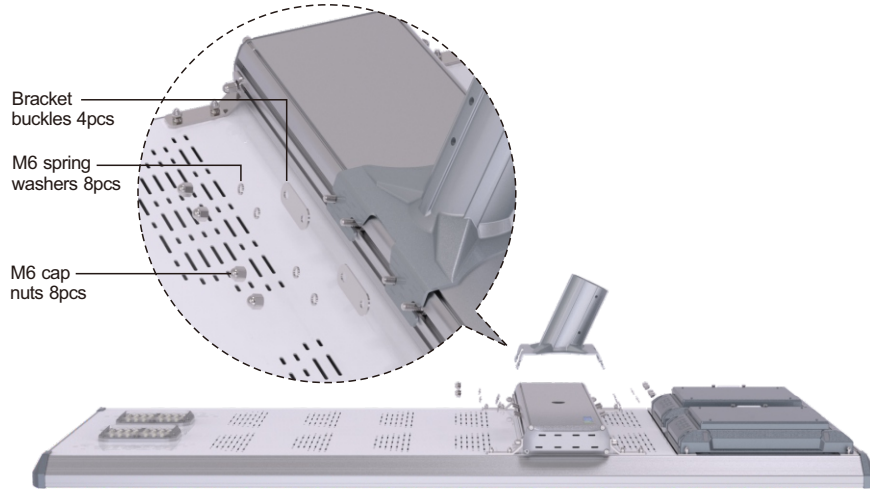

Figure 4
- 1 Fix the bracket to the bracket support with the 8 screws buckles, M6 spring washers, and M6 cap nuts. (See Figure 4)